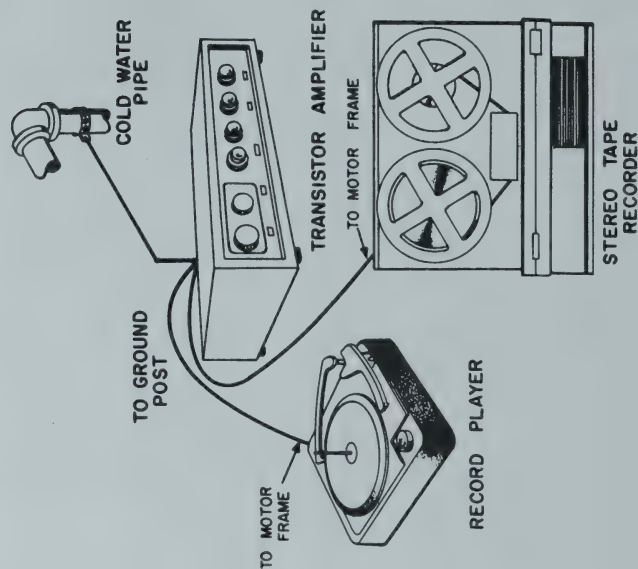

FIGURE 18. USE OF GROUND WIRE
6. Connect a ground wire (#18 wire or heavier) between the motor frame of your record player and the GROUND POST of your amplifier. Many record players have ground or "earth" terminals provided for this purpose. See Figure 18. In the same way, connect the motor frame of your tape recorder to the amplifier GROUND POST. If two separate tuners are used, connect the two chassis with a single ground wire; then connect just one of the tuner chassis to the amplifier GROUND POST.